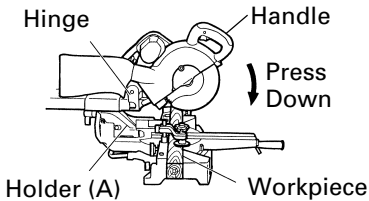

Fig. 27
Slide the hinge down to holder (A), then tighten the slide securing knob (see Fig. 2) as indicated in Fig. 27.